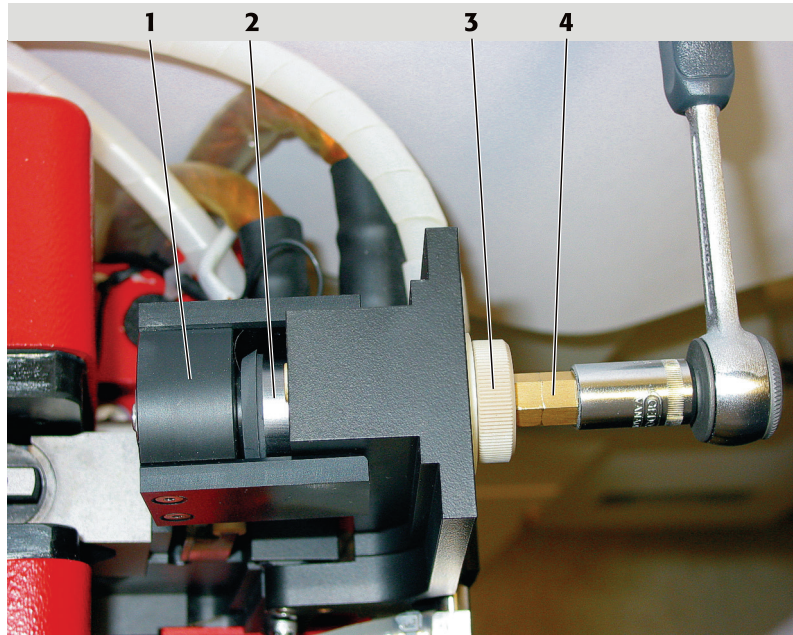

Fig. 56 Electrode with insertion device, mounted on the jaw
2. Screw in the flange nut (3 in Fig. 56) of the insertion tool as far as the stop in the furnace jaw.